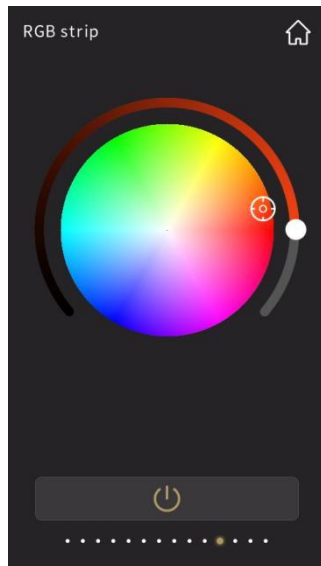

Fig.2.7.1
**② This area displays the page description identification of RGB dimming function page, user can define the description through ETS;**
**③ Return to the home page by touching this icon;**
**④ This ring slider is used to adjust the colour shade of the RGB lamp;**
**⑤ This icon is the colour palette;**
When RGB dimming function is configured as RGB, function page interface as shown in Fig.2.7.1, sliding ring slider④ to adjust the colour shade of RGB lamp, when ring slider④ is slid to the left bottom, RGB lamp is completely OFF, at this time, the button① become gray, and no reaction when operate the colour palette⑤.